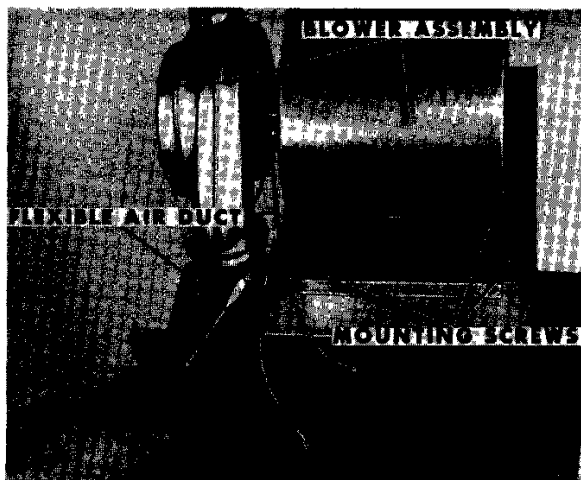

Figure 23 — Disconnecting Flexible Duct from Blower
2. Disconnect flexible air duct from blower assembly (Figure 23). Disconnect blower motor electrical leads.
7. Install blower assembly to furnace with three mounting screws (Figure 23). Connect blower electrical leads and flexible air duct.